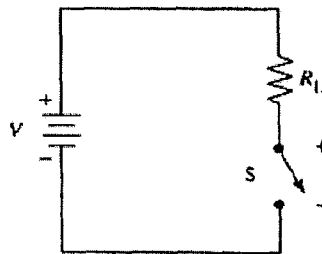

Figure Q3(a)
- b) Consider the single phase controlled half wave bridge rectifier shown in Figure Q3(b). The firing delay angle is 45° . Draw the waveforms of the half wave bridge rectifier for the following clearly labeling the graphs.